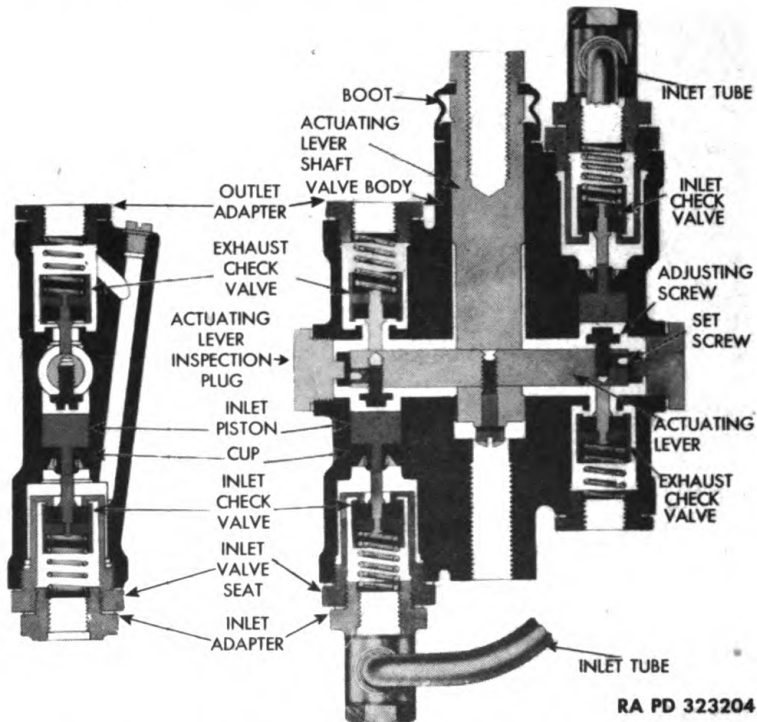

Figure 209 — Cross-section of Clutch Shifting Valve
b. Operation (fig. 209). The clutch shifting valve is suspended in the linkage between clutch pedals and clutch shifting lever. When air pressure is up to normal, and service clutch pedal is pushed down, it moves the actuating lever shaft which is attached to the actuating lever located inside the clutch shifting valve body. When the actuating lever is moved up within the valve body, it opens an inlet and an exhaust check valve. Opening the inlet valve allows air pressure from air reservoir tanks to flow to one of the clutch shifting power cylinders. Opening the exhaust valve allows air to exhaust from the other clutch shifting power cylinder. The amount of air admitted to power cylinder